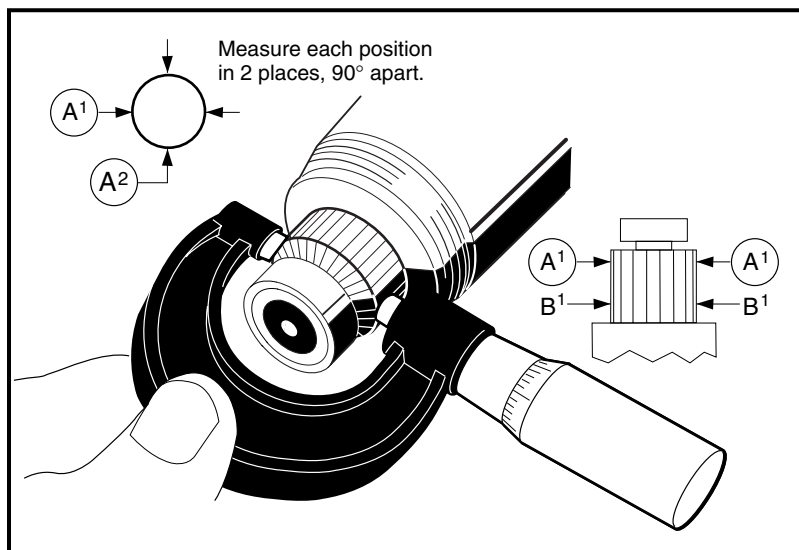

Figure 12a-12 Inspect Commutator
2. Use a micrometer and measure the outside diameter at four points: two points 90° to each other to the outside end of the commutator (A1 and A2), and two points 90° to each other to the inside of the commutator (B1 and B2). If the commutator diameter is less than 1.535 inches (39 mm) at any of the four locations, replace the armature assembly and bearings (**Figure 12a-12, Page 12a-7**).